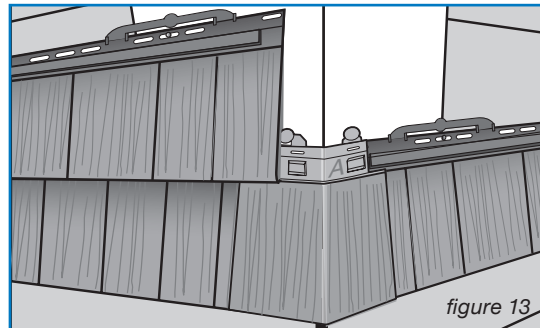

figure 13
2. Once the panel has been fastened, hook the corner "A" over the siding, making sure the corner piece is locked into the starter strip (figure 13).